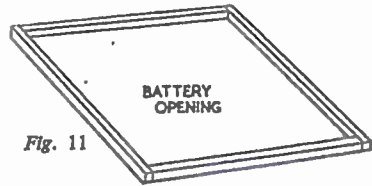
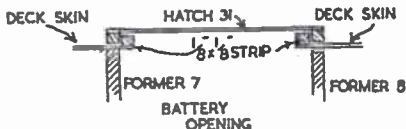

Fig. 11
Fig. 12
strip round the opening (Fig. 11). Make up the hatch (31) using a piece of thin plywood as shown on the design sheet with $\frac{1}{4}$ in. square strip glued on all round the underside. The section in Fig. 12 shows this clearly. Make the hatch a reasonably tight fit, so that it will not come off too easily. The same method is used in the making of the other two hatches.